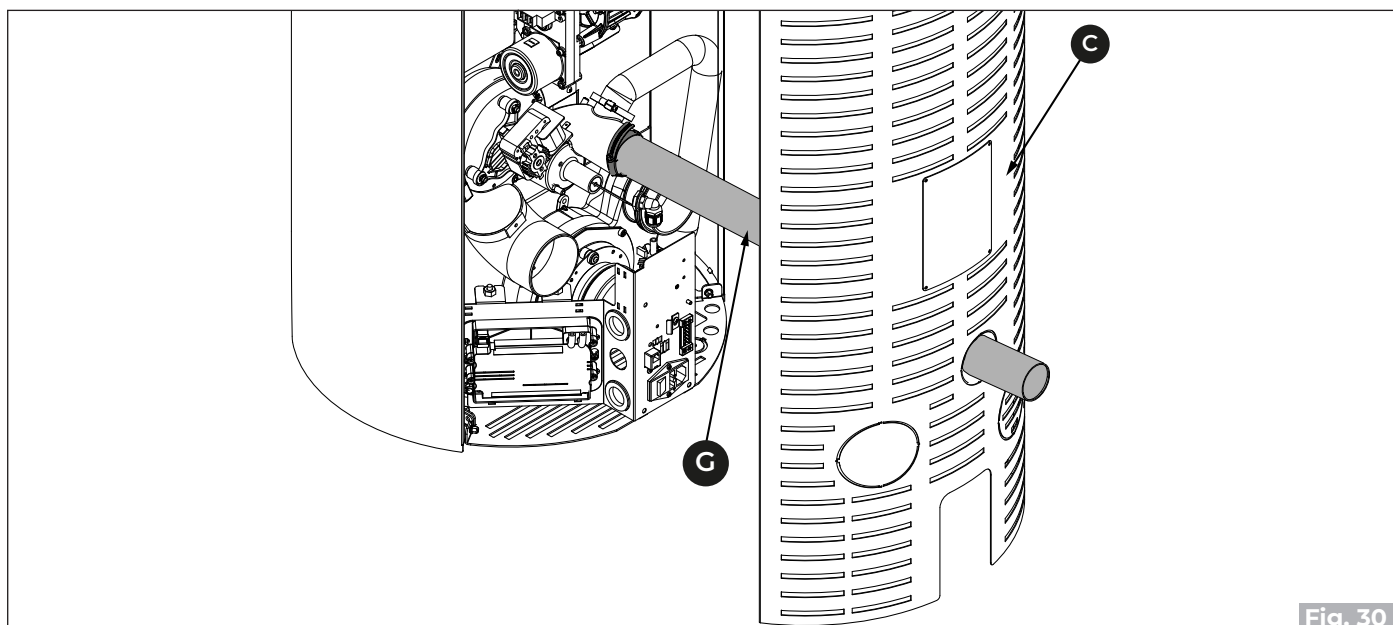

Fig. 30
- Connect the flue gas outlet pipe (G) ("Fig. 30").